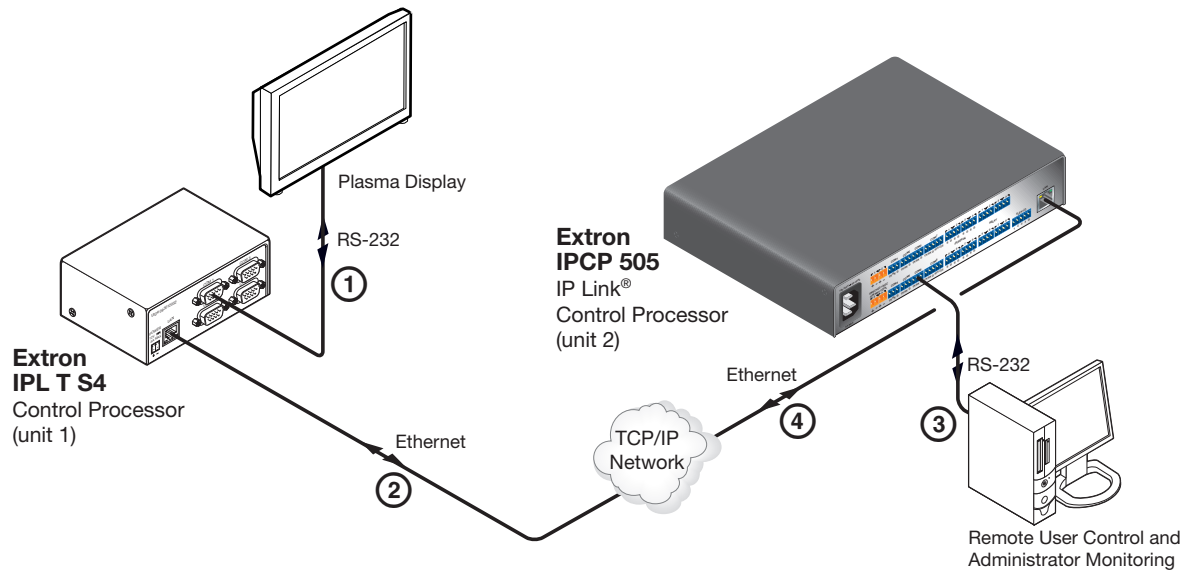

Figure 23. Connections for Serial Bridging
2. For unit 1 (the remote IPCP or IPL device), connect a serial cable to an AV device such as a display or projector (see figure 23, ①).
3. Connect that same remote IPCP or IPL (unit 1) to the LAN (see ②).